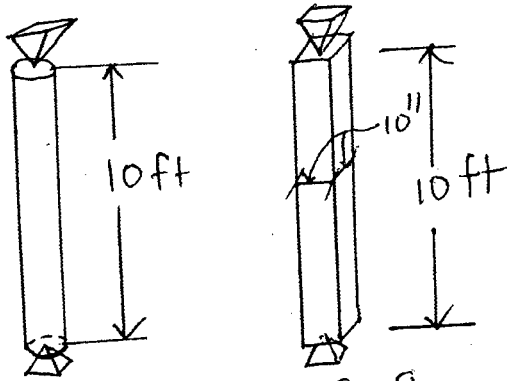
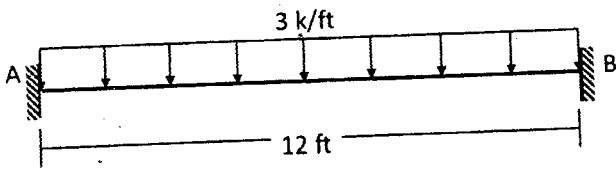

FIGURE . 8
FIGURE . 9
10. Determine the radius of the round column so that the round and square column (shown in Figure 8) has the same cross-sectional area and compute the largest load both of them can support before it either begins to buckle or the steel yields. Given, $E = 29,000$ ksi, $\sigma_y = 36$ ksi. (14)
11. Design the most efficient cross-section of a A-36 steel column 30' long and supporting a load of 250 kips. The column is fixed at both ends. Use AISC/ASD method. Necessary formula and charts are provided in Appendix - A. (14)
12. A fixed ended beam supports a uniformly distributed load of 3 kip/ft. Find the equation of the deflection by using fourth-order differential equation. Also, calculate deflection at midspan. Given: The flexural rigidity, $EI = 30,000$ kip-ft². See Figure 9. (14)